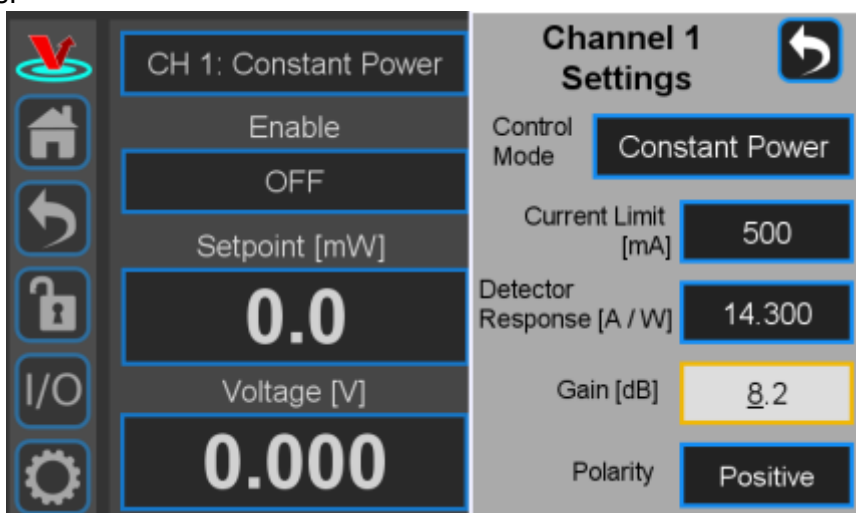

Fig. 27: Setting the Gain for Constant Power
3. Turn the Gain all the way to 0 (zero). Turn the system ON to deliver current to the diode. Slowly turn up the Gain until the power begins to oscillate (figure 27). (Hint; It is easiest to adjust the gain for this step via the knobs as opposed to through the keypad.) Turn down the Gain until oscillation stops.